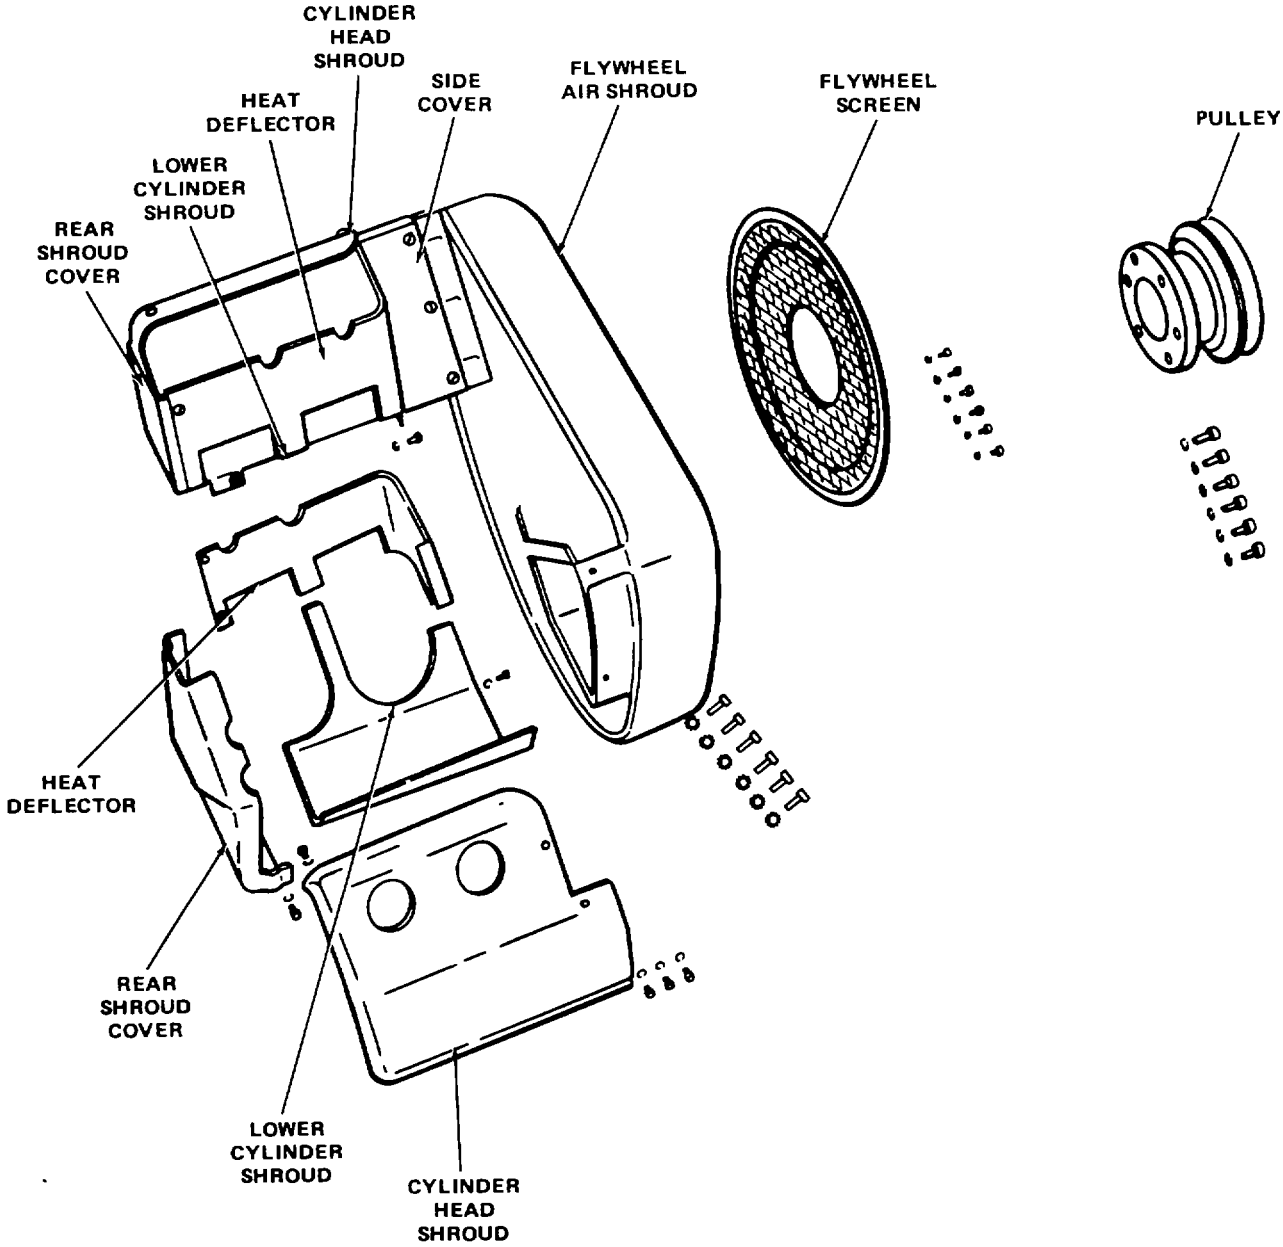

Figure 6-12. Shrouds
g. Air Shrouding. (Figure 6-12)
- (1) Remove six 1/4-20" screws and lock washers from left cylinder head shroud.
- (2) Remove left cylinder head shroud.
- (3) Remove six 1/4-20" screws and lock washers from right cylinder head shroud.
- (4) Remove right cylinder head shroud.
- (5) Remove three 1/4-20" screws and lock washers from left rear shroud cover.
- (6) Remove left rear shroud cover.
- (7) Remove three 1/4-20" screws and lock washers from right rear shroud cover.
- (8) Remove right rear shroud cover.
- (9) Remove left heat deflector.
- (10) Remove three 1/4-20" screws and lock washers from side shroud cover.